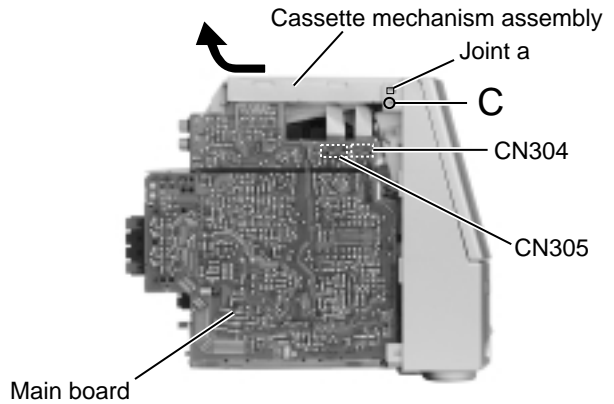

Fig.5
**■Removing the cassette mechanism assembly (See Fig.5 and 6)**